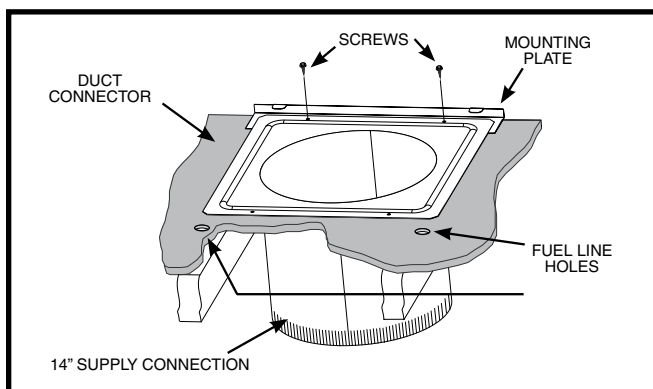

Figure 13. Round Duct Connector Installed
3. Install the mounting plate under the back side of the duct connector. See Figure 13. **NOTE:** Align the screw holes in both components.